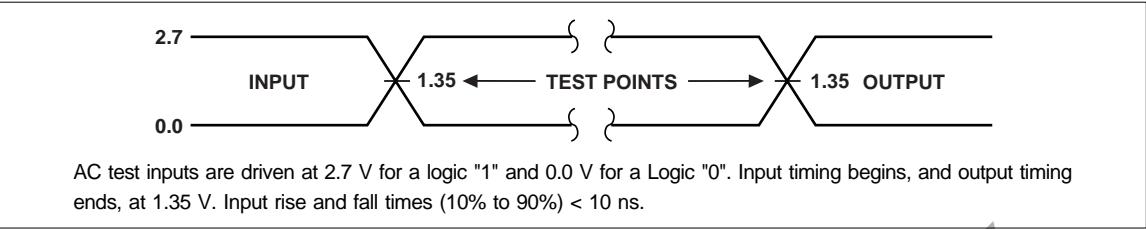

Fig. 7 Transient Input/Output Reference Waveform for Vcc = 2.7 to 3.6 V
1. See AC Input/Output Reference Waveform (Fig. 7) for maximum allowable input slew rate.